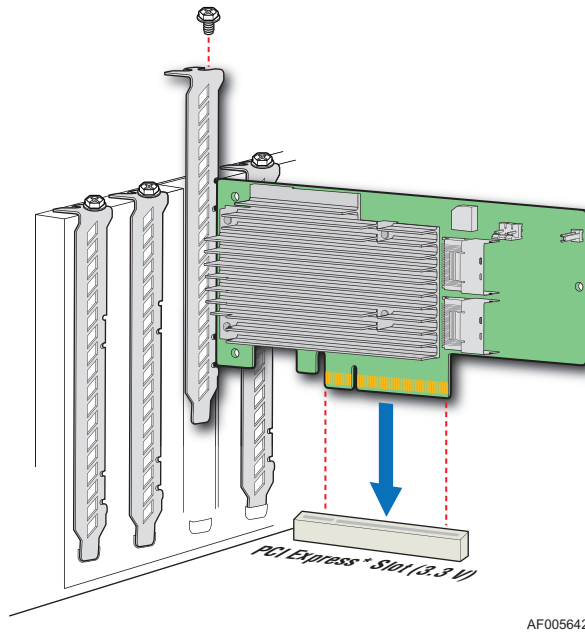

Figure 2. Installing the Intel® Integrated RAID Module RMS25PB080N
4. Install the RAID module into an available server system x8 or x16 PCI-Express* slot (see Figure 2). To locate an appropriate slot and for instructions on installing an add-in card, see your server system documentation.